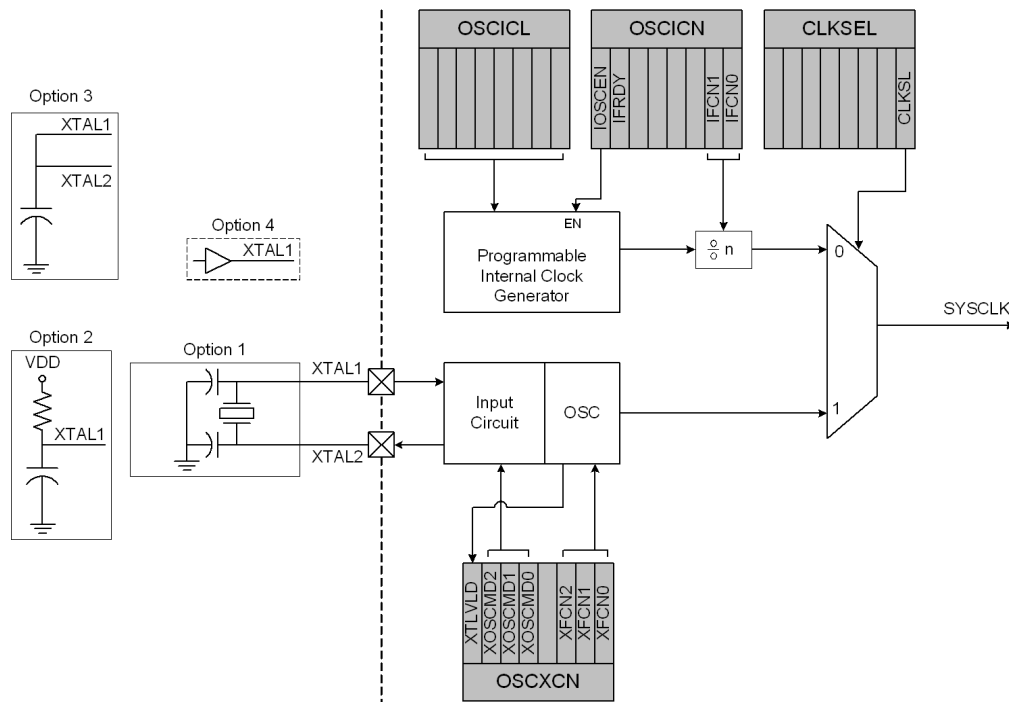

Figure 14.1. Oscillator Diagram
The external oscillator circuit may drive an external crystal, ceramic resonator, capacitor, or RC network. A CMOS clock may also provide a clock input. For a crystal or ceramic resonator configuration, the crystal/resonator must be wired across the XTAL1 and XTAL2 pins as shown in Option 1 of Figure 14.1. In RC, capacitor, or CMOS clock configuration, the clock source should be wired to the XTAL2 and/or XTAL1 pin(s) as shown in Option 2, 3, or 4 of Figure 14.1. The type of external oscillator must be selected in the OSCXCN register, and the frequency control bits (XFCN) must be selected appropriately (see SFR Definition 14.4).
**CRYSTAL MODE** (Circuit from Figure 14.1, Option 1; XOSCND = 11x)
**RC MODE** (Circuit from Figure 14.1, Option 2; XOSCND = 10x)
**C MODE** (Circuit from Figure 14.1, Option 3; XOSCND = 10x)